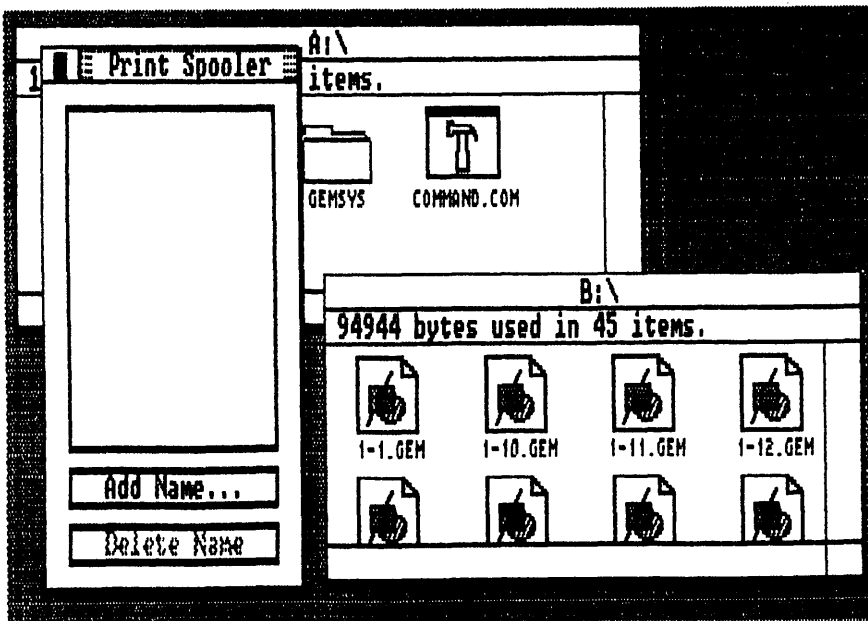

Fig. 1-16. This desk accessory forms a list of ASCII text files for output to the connected peripheral.
**Print Spooler** (Fig. 1-16) is the last of the Desk Menu options. This desk accessory forms a list of ASCII (American Standard Code for Information Interchange) text files for processing through OUTPUT (see a full explanation of this application later in this chapter). This list is sent to the printer, starting with the top file. Complete control over the formation of this queue is possible by adding and deleting file names. Each list that is created with the Print Spooler is a temporary list that can not be saved.